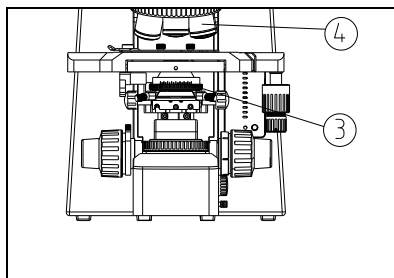

Fig. 24
Use of scale: set the scale of condenser N.A. to the 80% value of objective (4) N.A. (see Fig.24).